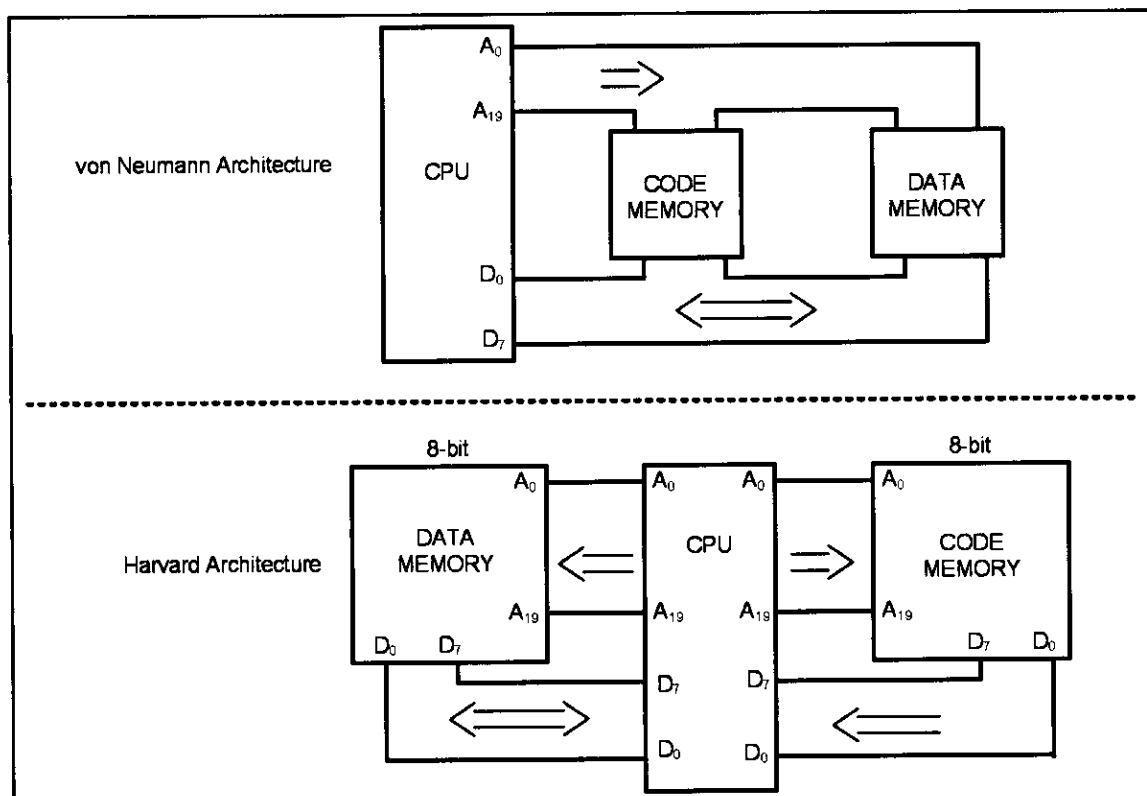

Figure 0-20. von Neumann vs. Harvard Architecture
Every microprocessor must have memory space to store program (code) and data. While code provides instructions to the CPU, the data provides the information to be processed. The CPU uses buses (wire traces) to access the code ROM and data RAM memory spaces. The early computers used the same bus for accessing both the code and data. Such an architecture is commonly referred to as *von Neumann (Princeton) architecture*. That means for von Neumann computers, the process of accessing the code or data could cause them to get in each other's way and slow down the processing speed of the CPU, because each had to wait for the other to finish fetching. To speed up the process of program execution, some CPUs use what is called *Harvard architecture*. In Harvard architecture, we have separate buses for the code and data memory. See Figure 0-20. That means that we need four sets of buses: (1) a set of data buses for carrying data into and out of the CPU, (2) a set of address buses for accessing the data, (3) a set of data buses for carrying code into the CPU, and (4) an address bus for accessing the code. See Figure 0-20. This is easy to implement inside an IC chip such as a microcontroller where both ROM code and data RAM are internal (on-chip) and distances are on the micron and millimeter scale. But implementing Harvard architecture for systems such as x86 IBM PC-type computers is very expensive because the RAM and ROM that hold code and data are external to the CPU. Separate wire traces for data and code on the motherboard will make the board large and expensive. For example, for a Pentium microprocessor with a 64-bit data bus and a 32-bit address bus we will need about 100 wire traces on the motherboard if it is von Neumann architecture (96 for address and data, plus a few others for control signals of read and write and so on). But the number of wire traces will double to 200 if we use Harvard architecture. Harvard architecture will also necessitate a large number of pins coming out of the microprocessor itself. For this reason you do not see Harvard architecture implemented in the world of PCs and workstations. This is also the reason that microcontrollers such as AVR use Harvard architecture internally, but they still use von Neumann architecture if they need external memory for code and data space. The von Neumann architecture was developed at Princeton University, while the Harvard architecture was the work of Harvard University.